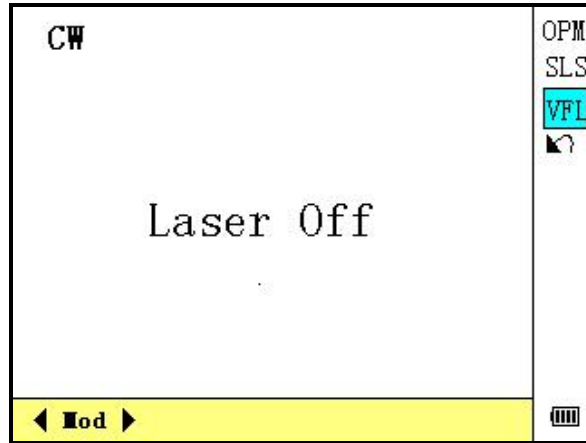

Figure 4-13. Visible Fault Locator
- Enter PM/LS interface as described in 3.4.3.2.7. Use [▲] and [▼] to highlight VFL, and press [Enter] to enter VFL interface as shown in Figure 4-13.